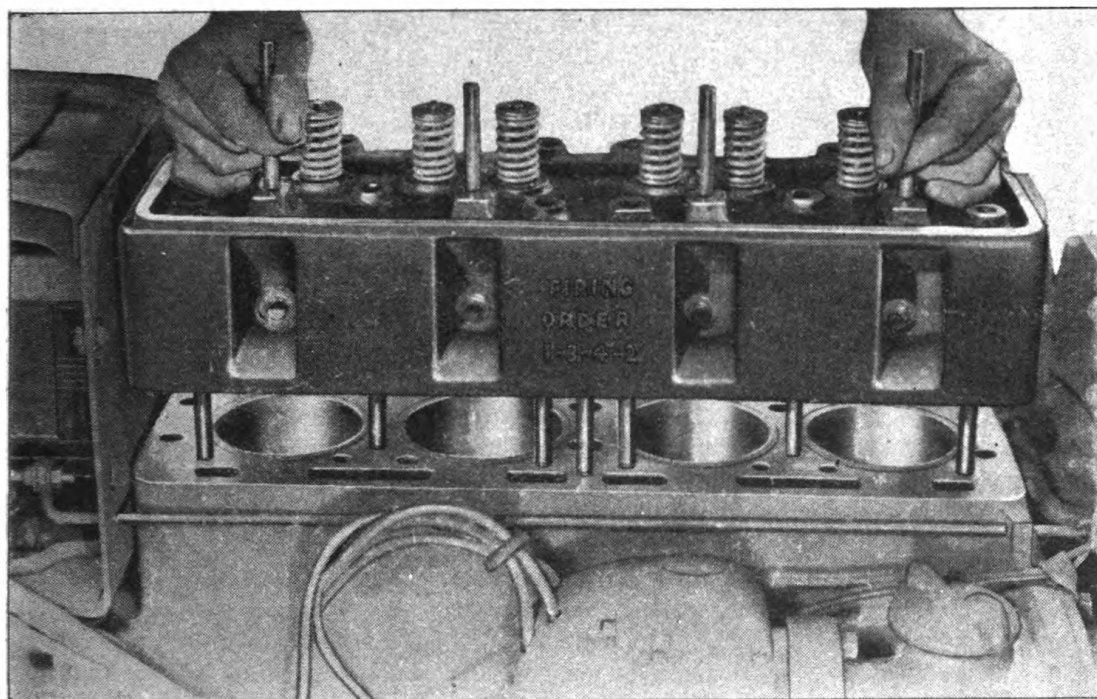

Fig. 29. Removing Cylinder Head by Lifting Straight Up
8. The cylinder head can be lifted off. Fig. 29.